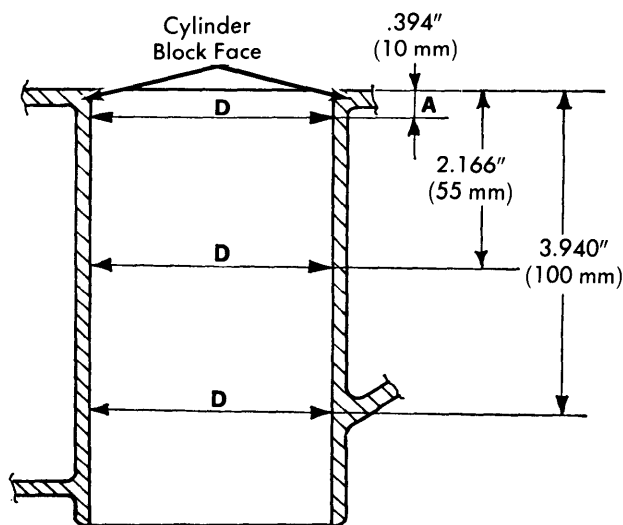

Fig. 7 Measuring Cylinder Bore Diameters
2) Measure cylinder diameters at points .394" (10 mm), 2.166" (55 mm), and 3.94" (100 mm) below surface of block and parallel and at right angles to crankshaft. See Fig. 7.